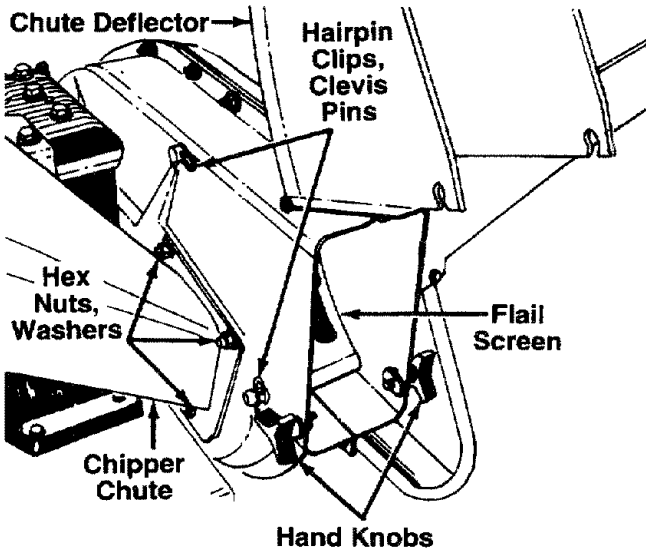

FIGURE 17.
- Remove two hairpin clips from the clevis pins which extend through the housing. Remove the clevis pins. Lift the flail screen from inside the housing. See figure 17.
NOTE: Be certain to reassemble the flail screen with the curved side down as shown in figure 17.
- Remove the chipper chute by removing three hex nuts and washers. A 1/2" wrench is required. See figure 17.